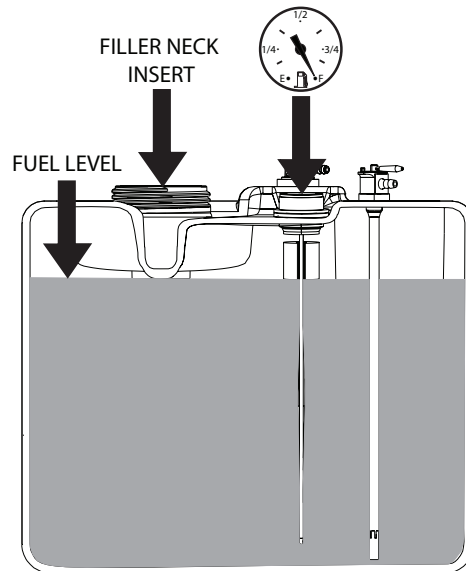

Figure 7-3. C.A.R.B. / EPA Phase 3 Fuel Level
Fill to the bottom of the filler neck insert (approximately 5-1/2 gallons indicating Full (F) on the fuel gauge) at the beginning of each operating day. See Figure 7-3. Do not overfill. Use clean, fresh unleaded gasoline with a minimum octane rating of 87 and a maximum of 10% Ethanol.